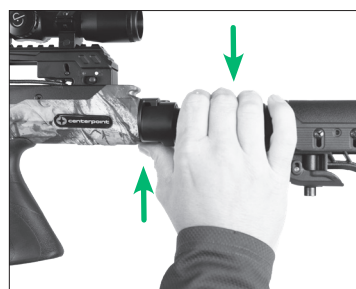
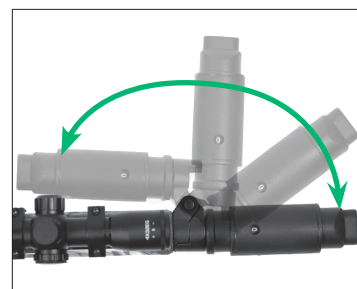

FIGURE 11
FIGURE 12
**To adjust the folding stock** (Part T), position your right hand as shown in Fig. 11. Apply pressure with the thumb of your right hand to the bottom of the hing (Part 29) Fig. 11 while pushing down on the top of the butt-stock (Part 25). This will allow the butt stock to be folded into the closed position as shown in figure 12.
With the crossbow aimed in a safe direction and an arrow loaded, slide the safety switch (Part 2) forwards until you hear and feel the safety switch click off. The safety is disengaged and the crossbow is ready to be cocked or fired when the safety switch has moved from under the (S)AFE position and the white dot, to under the (F)IRE position and the red dot, as illustrated in Figure 11 on page 4.
**CAUTION:** DO NOT USE THE COCKING PREPARATION SWITCH (PART 3) TO DISENGAGE THE SAFETY IF THE CROSSBOW IS COCKED OR YOU WILL TURN OFF THE ANTI-DRY FIRE MECHANISM. ONLY USE THIS SWITCH TO DISENGAGE THE SAFETY IF THE CROSSBOW IS SET TO (S)AFE AND YOU WANT TO COCK THE CROSSBOW.